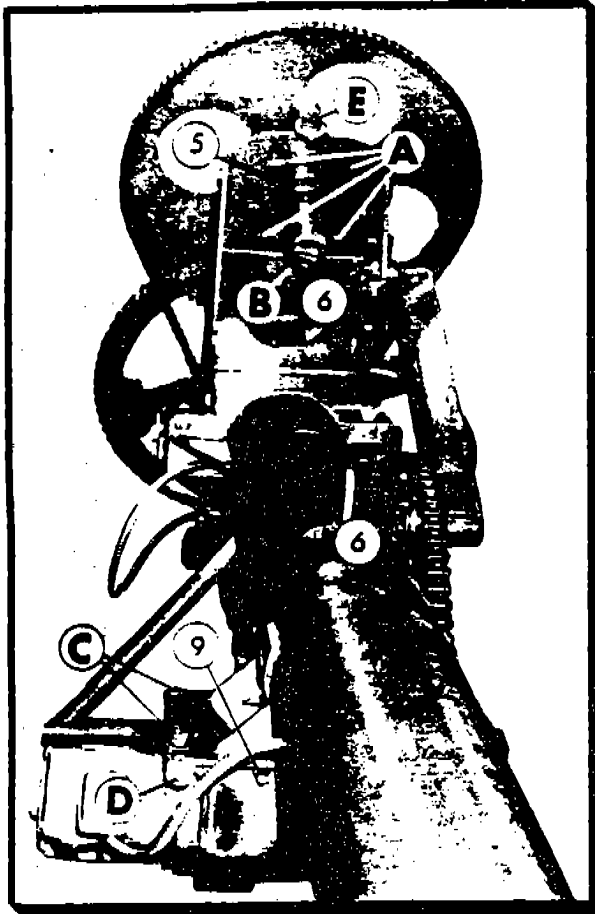
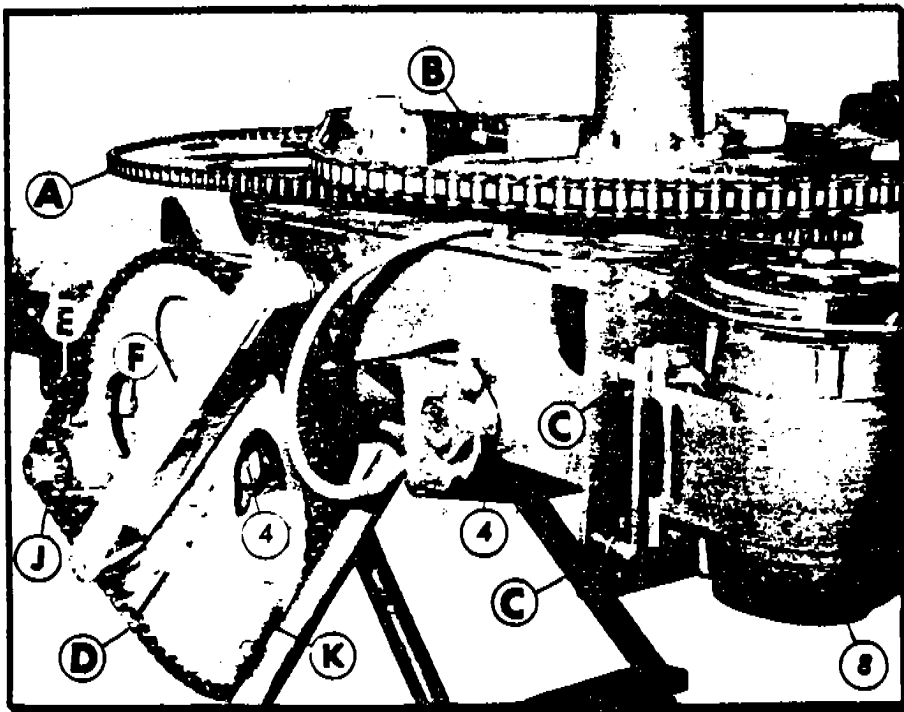

FIG. 1
FIG. 3
For the purpose of clarification, Ref.(A) Fig. 3, designates Motor Chain, Ref.(B) Fig. 3, Boom Chain and Ref.(D) Fig. 3, Tilt Chain.
To properly adjust the Motor and Boom Chains, all pressure should be relieved from the Motor Chain. This may be accomplished by removal of the Shim Washers, Ref.(C) Fig. 3, or by removing a link and separating the Chain. The four Bolts, Ref.(A) Fig. 1, should then be loosened to allow movement of the Countershaft Housing Flange, Ref.(B) Fig. 1 & 2. Adjuster Nut, Ref.(E) Fig. 1, is then tightened until approximately 3/4" depression of Chain is obtained by slight thumb pressure midway between the Countershaft and Boom Sprockets. If adjustment slots in the Countershaft Housing Flange are at maximum adjusting point, remove the half link and re-adjust the Chain. If there is no half link in Chain, remove a full link and install a half link. After proper adjustment of this Chain, tighten the four Bolts, Ref.(A) Fig. 1, and safety Adjuster Nut, Ref.(E) Fig. 1. The Motor Chain is then adjusted by Shim Washers, Ref.(C) Fig. 3, with variations of minimum and maximum adjustments compensated as described above by utilizing half links. Care should be exercised to properly align the Motor Sprocket with the Countershaft Sprocket, with horizontal alignment accomplished by shim washers and vertical alignment by slots provided on Motor Support Base. Brake adjustment, described below, is usually required after Motor Chain adjustment.
To properly adjust the Tilt Chain, Ref.(D) Fig. 3, loosen the Gear Unit Bolts, Ref.(C) Fig. 1 and Ref.(E) Fig. 3. Then loosen Adjusting Screw, Ref.(D) Fig. 1. Next, tighten Chain by turning Adjusting Stud, Ref.(F) Fig. 3, in until Chain can be depressed about 3/4", midway between the Sprockets, by a slight thumb pressure. Secure in position by tightening Ad-
justing Screw, Ref.(D) Fig. 1, until it bears against the Gear Housing. Secure Gear Unit Bolts, Ref.(C) Fig. 1. To loosen Chains, reverse above procedures. The correct alignment of Sprocket, Ref.(J) Fig. 3, with Sprocket, Ref.(K) Fig. 3, is dependant upon it's proper location on the Gear Unit Shaft.